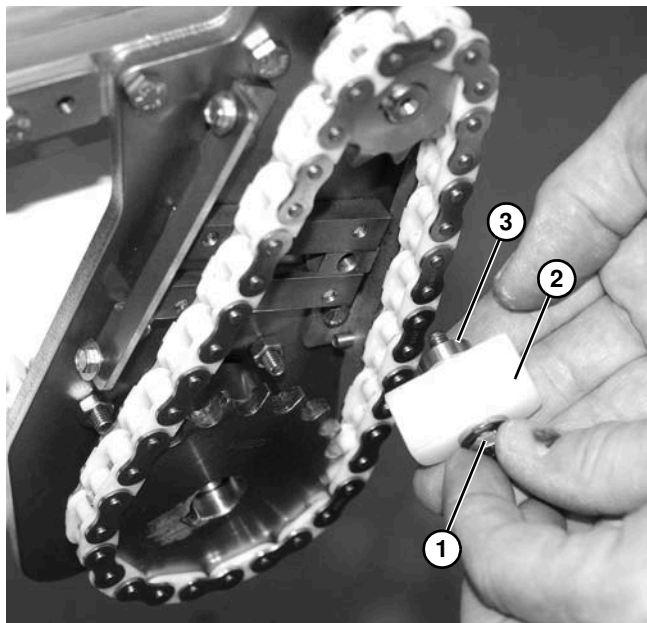

Figure 35
- Install screw and washer (**Figure 35, item 1**), timing chain tensioner (**Figure 35, item 2**), and spacer (**Figure 35, item 3**) onto drive mounting bracket.